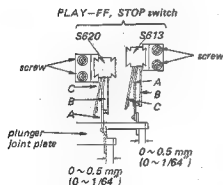

Fig. 3-22. PLAY--FF, STOP switch (S613, 620) position adjustment
1. Place the unit in the STOP mode. See Fig. 3-22. Make sure that the distance between the plunger joint plate and the leaf A of the leaf switch is 0 to 0.5 mm ( $1/64''$ ), and also that the leaves A and B are in contact with each other completely. If necessary, adjust the switch position by loosening the screws.